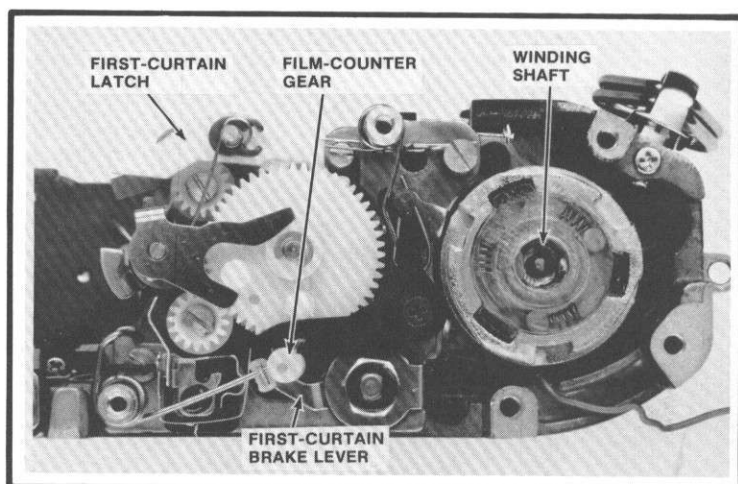

Figure 69
12. Push the first-curtain brake lever, Fig. 69, toward the back of the camera. Then lift out the film-counter gear, Fig. 69.
13. Make sure the shutter is in the released position (push the first-curtain latch to release the shutter). Then remove the winding shaft, Fig. 69, by pushing it up from the bottom. Be careful that you don't dislodge the springs and rollers of the one-way clutch.